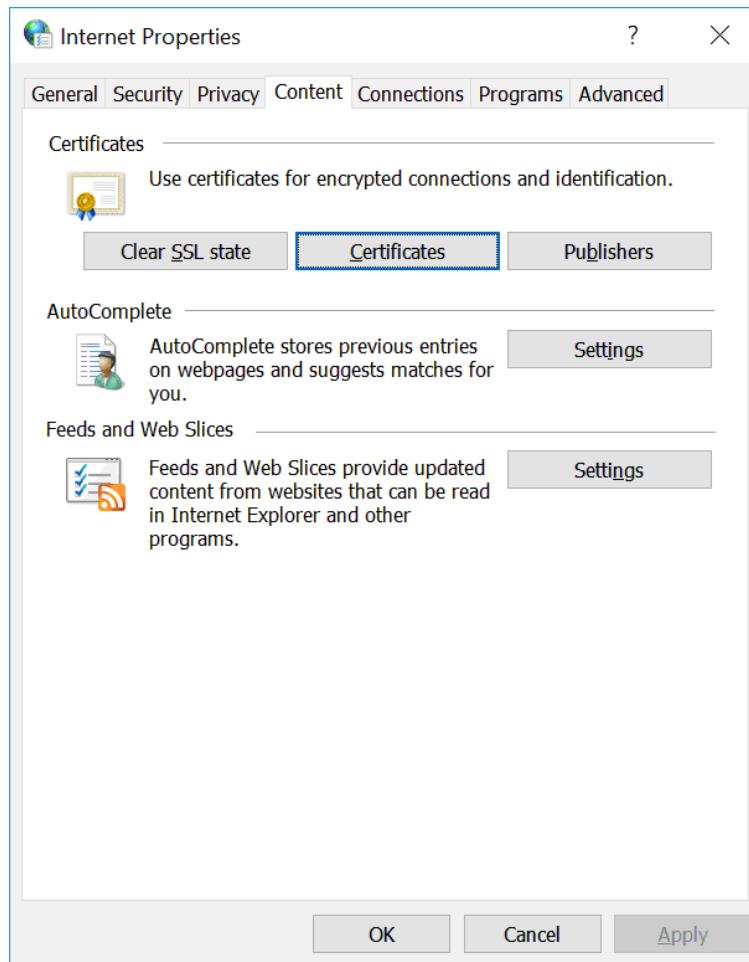

Figure 175: Internet Properties, Content Tab
- In Windows, click on the Start Menu, type Internet Options, then press the Enter key to open the Internet Properties screen, as shown in Figure 175.